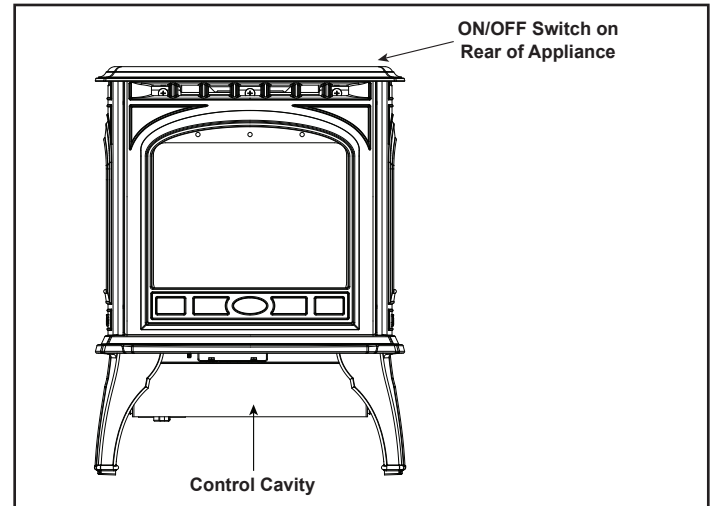

Figure 3.3 - ON/OFF Switch/Control Cavity Location
The IntelliFire™ Plus intermittent pilot ignition system comes with a battery backup system that enables the system to operate in a power outage. The system offers seamless transition from household AC power to battery backup. A factory-installed battery pack is located in the control cavity of the appliance. See Figure 3.3. Battery longevity and performance will be affected by long term exposure to the service temperatures of this appliance.
1. Access the control cavity of the appliance. See Figure 3.3 for location.
- Toggle the switch as you would under normal circumstances. See figure 3.3
To operate the appliance without a wall control or remote control, use the ON/OFF switch located on the front panel of the control cavity of the appliance. See Figure 3.3.